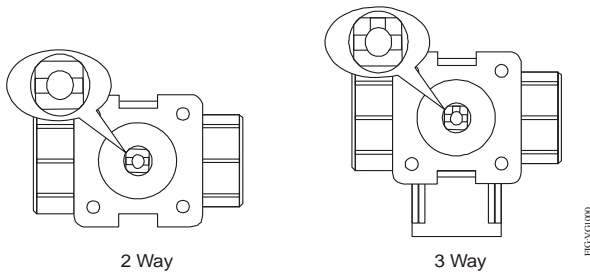
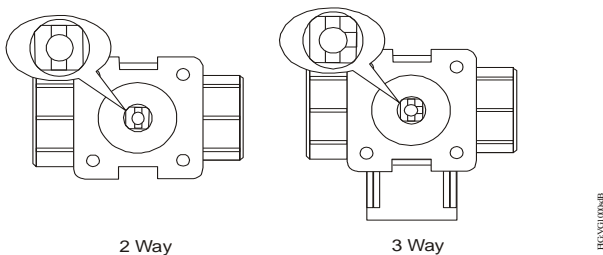

Figure 4: Positioning the Valve Stem - Spring Return Port A (Coil) Open
Figure 5: Positioning the Valve Stem - Spring Return Port A (Coil) Closed
1. Position the valve ball and stem to the desired spring return position. To mount the actuator to Spring Return Port A (Coil) Open, turn the valve stem to the position in Figure 4. To mount the actuator to Spring Return Port A (Coil) Closed, turn the valve stem to the position in Figure 5.
Note: For the VA9104 Electric Non-Spring Return Valve Actuators, position the valve ball and stem to the zero position. Turn the valve stem to the position in Figure 4.